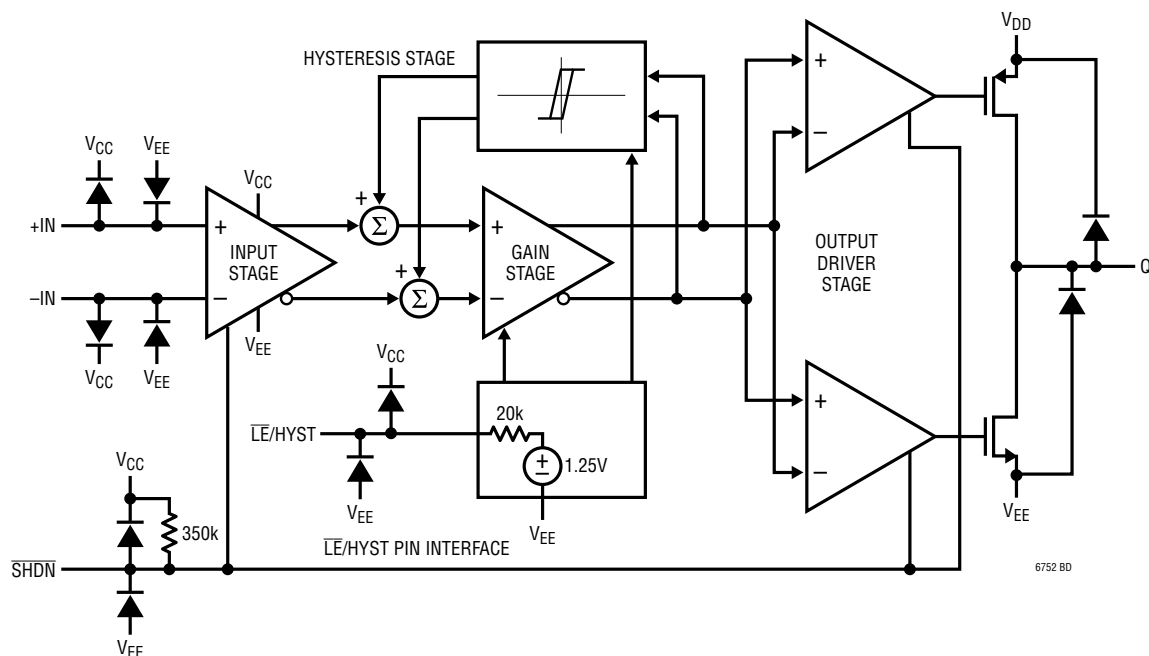

Figure 1. LTC6752/LTC6752-1/LTC6752-2/LTC6752-4 Block Diagram
The block diagram is shown in Figure 1. There are differential inputs (+IN, -IN), a negative power supply (V_{EE}), two positive supply pins: V_{CC} for the input stage and V_{DD} for the output stage, an output pin (Q), a pin for latching and adjusting hysteresis ($\overline{LE}/HYST$), and a pin to put the device in a low power mode (\overline{SHDN}). In the LTC6752 and LTC6752-1, the two positive supply pins are bonded together and referred to as V_{CC} . The signal path consists of a rail-to-rail input stage, an intermediate gain stage, and an output stage driving a pair of complementary FETs capable of taking the output pin to either supply rail. A Latching/Hysteresis interface block allows the user to latch the output state and/or remove or adjust the comparator input hysteresis. All of the internal signal paths make use of low voltage swings for high speed at low power.
The LTC6752 family members have reverse-biased ESD protection diodes on pins as shown in Figure 1.